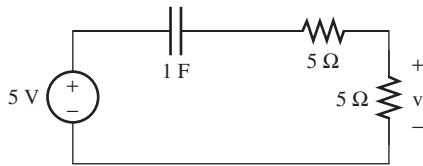

FIGURE P4.10 Circuit for Problem 4.10.
- 4.10 (B) Find the voltage, v , in Figure P4.10.